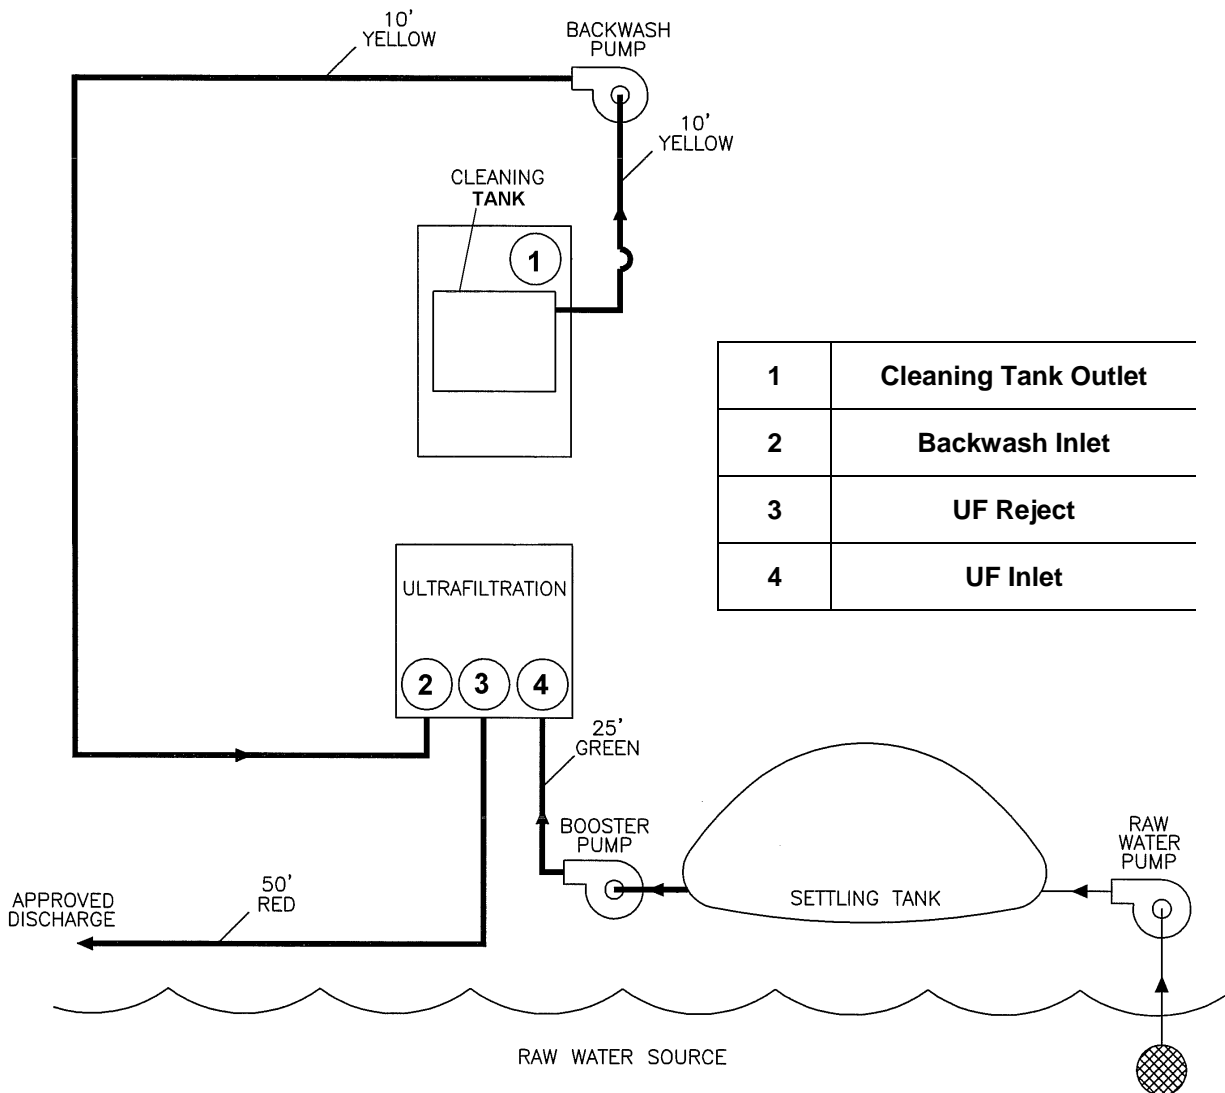

Figure 4. Maintenance Cleaning Diagram.
14. Reconnect the backwash inlet hose to the UF module. See Figure 4 for cleaning diagram.